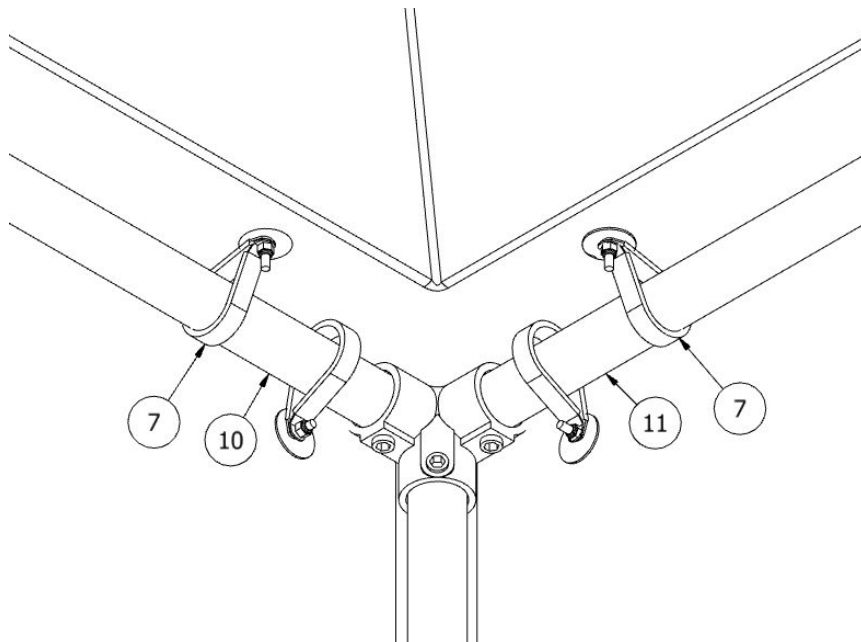

FIGURE 14
1. Locate (2) ITEM 7'S and place them flat sides up and out at the corners of ITEMS 10 & 11. **SEE FIGURE 14.**
3. Tighten ITEM 8 on all roof clamps. **SEE FIGURE 14**